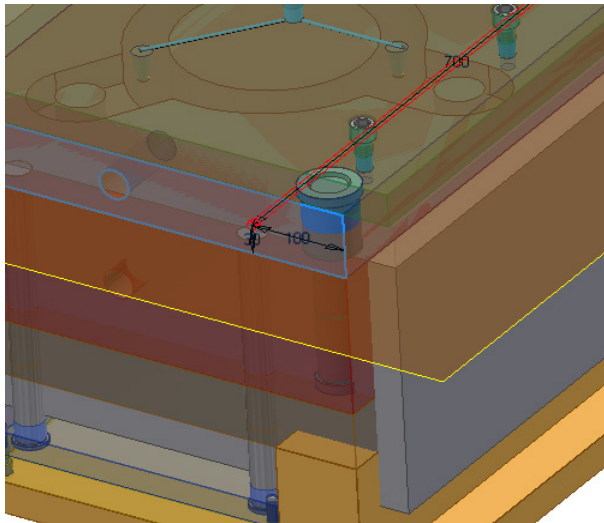

Figure 19-93 Preview of the cooling channel
6. Click on these dimensions and specify the value **30** for vertical distance and **100** for horizontal distance; a preview of the cooling channel is displayed, as shown in Figure 19-93.